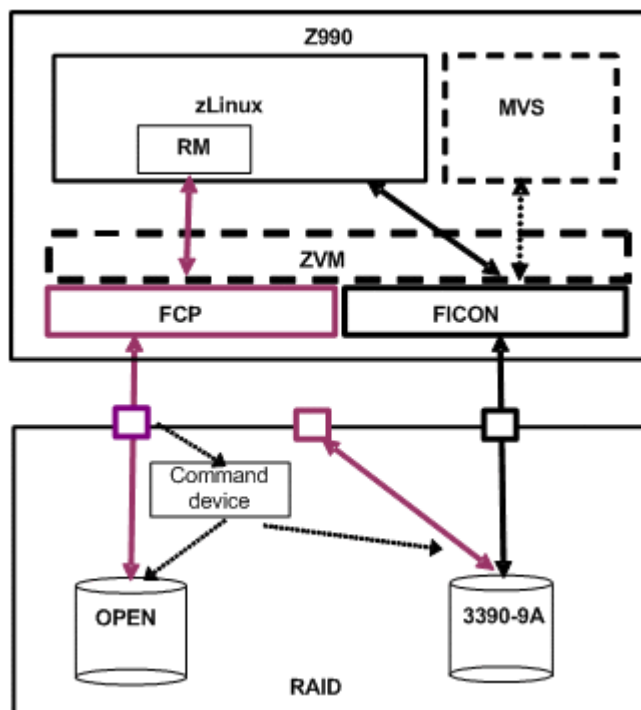

Figure 1-1 Example of a CCI Configuration on z/Linux
- **Mainframe (3390-9A) Volumes via FICON.** You cannot control the volumes (3390-9A) that are directly connected to FICON for ShadowImage pair operations. Also, mainframe volumes must be mapped to a CHF(FCP) port to access target volumes using a command device, as shown in Figure 1-1 Example of a CCI Configuration on z/Linux on page 1-6. The mainframe volume does not have to be connected to an FCP adaptor.